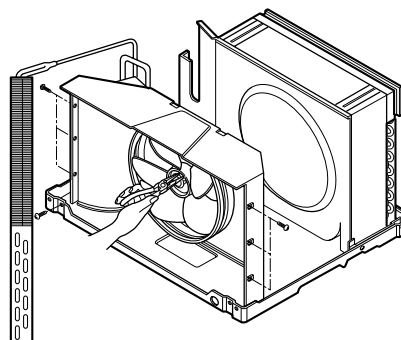

Figure 21
6. Remove the fan. (See Figure 21)